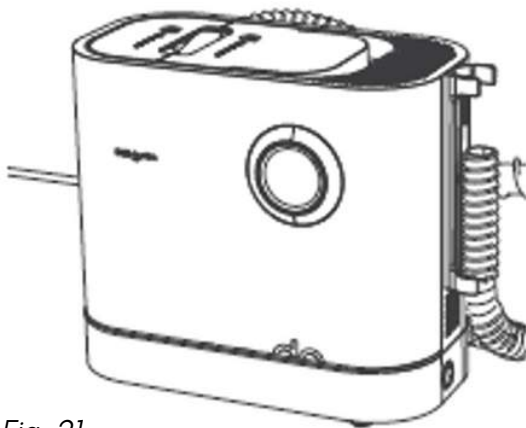

Fig. 21
4. After the dirty water tank is cleaned, close the knob and install the dirty water tank onto the appliance (see Fig.21).